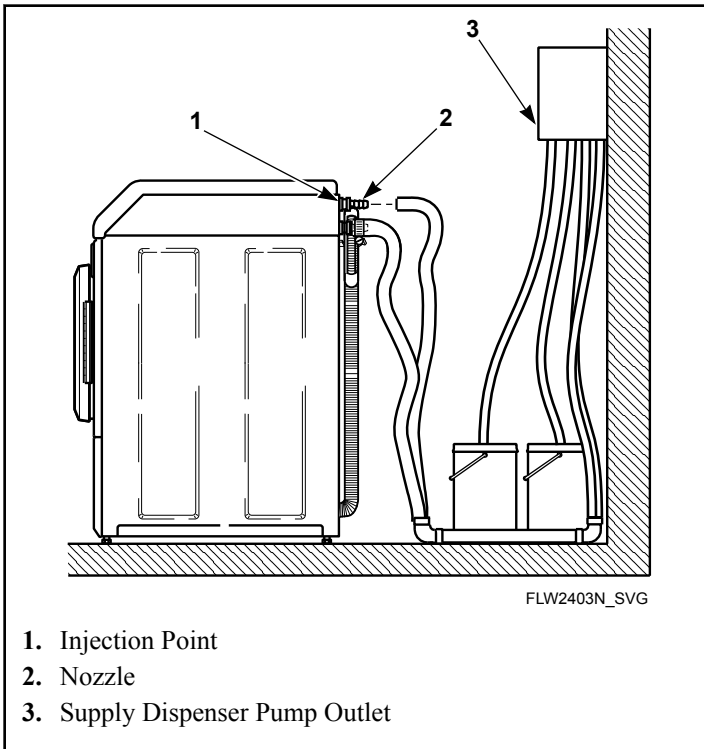

Figure 17
2. Attach nozzles to rear of machine. Connection point located on cabinet, above water mixing valve. Refer to *Figure 17*.
3. Connect supply hoses to nozzles and secure with hose clamps (obtain locally). Refer to *Figure 17*.